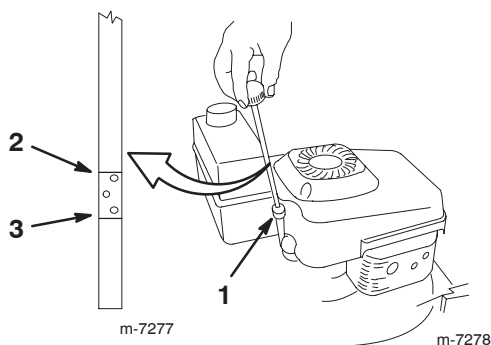

Figure 7
Before each use, ensure that the oil level is between the Add and Full marks on the dipstick (Fig. 7).
2. Clean around the dipstick (Fig. 7).
7. Read the oil level on the dipstick (Fig. 7).